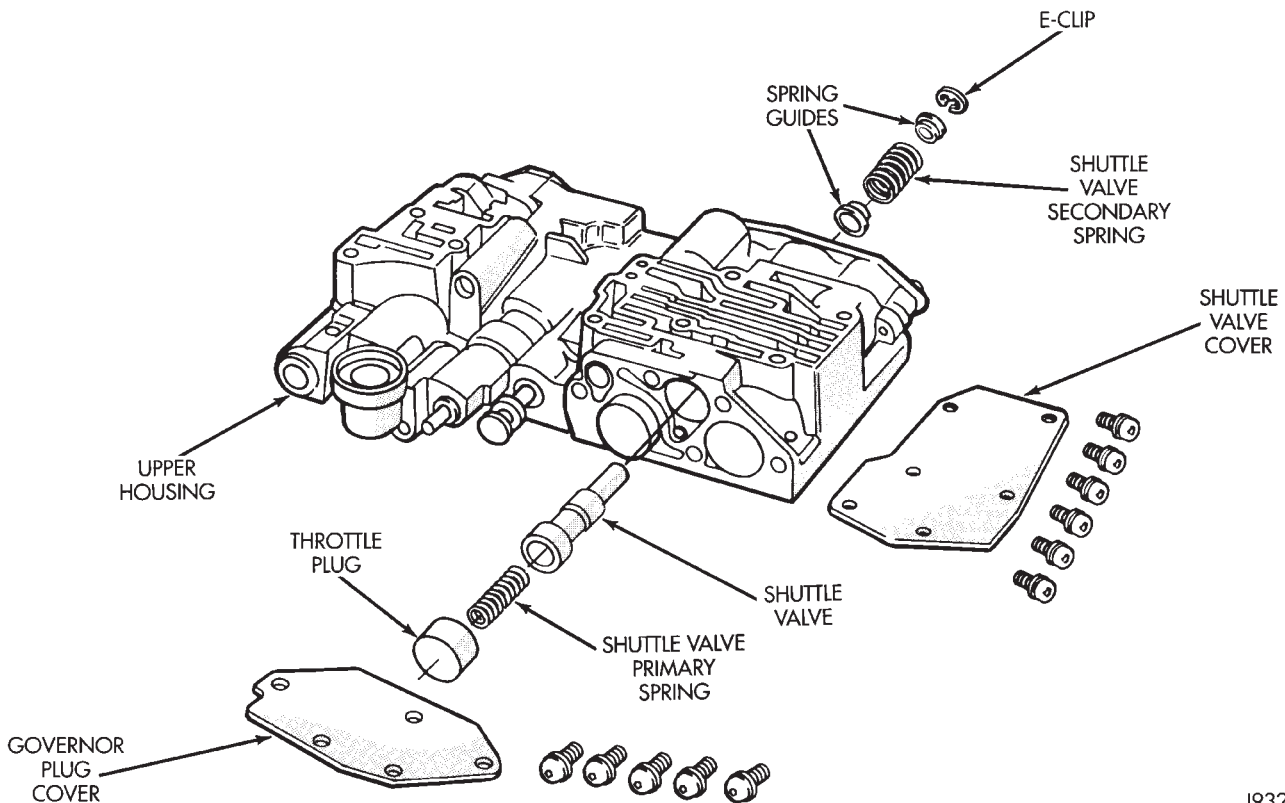

Fig. 121 Shuttle And Boost Valve Components
- (3) Remove governor plug and shuttle valve covers (Fig. 121).
- (4) Remove throttle plug, primary spring, shuttle valve, secondary spring, and spring guides (Fig. 121).
- (5) Remove boost valve retainer, spring and valve if not previously removed.